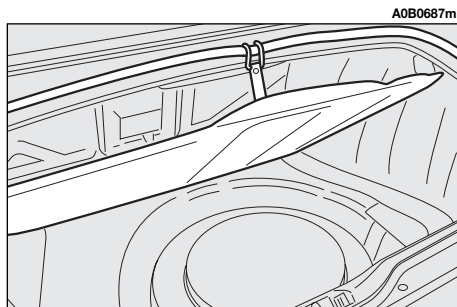

fig. 7
– raise the boot mat and secure it as shown in **(fig. 7)**;